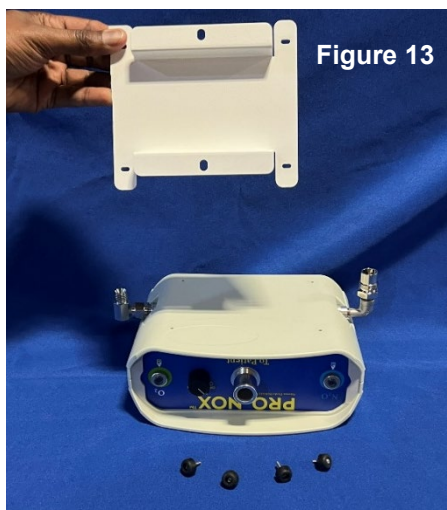

Figure 13
5. Place the new mounting plate on the bottom of the Mixer, aligning the holes. See Figures 13 & 14.